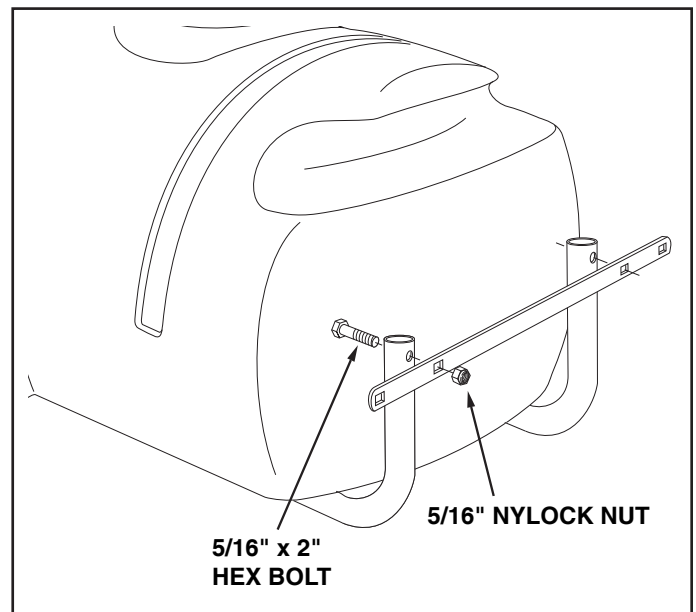

FIGURE 4
8. Assemble the boom mount bracket to the rear of the frame tubes using two 5/16" x 2" hex bolts and 5/16" nylock nuts. See figure 4.